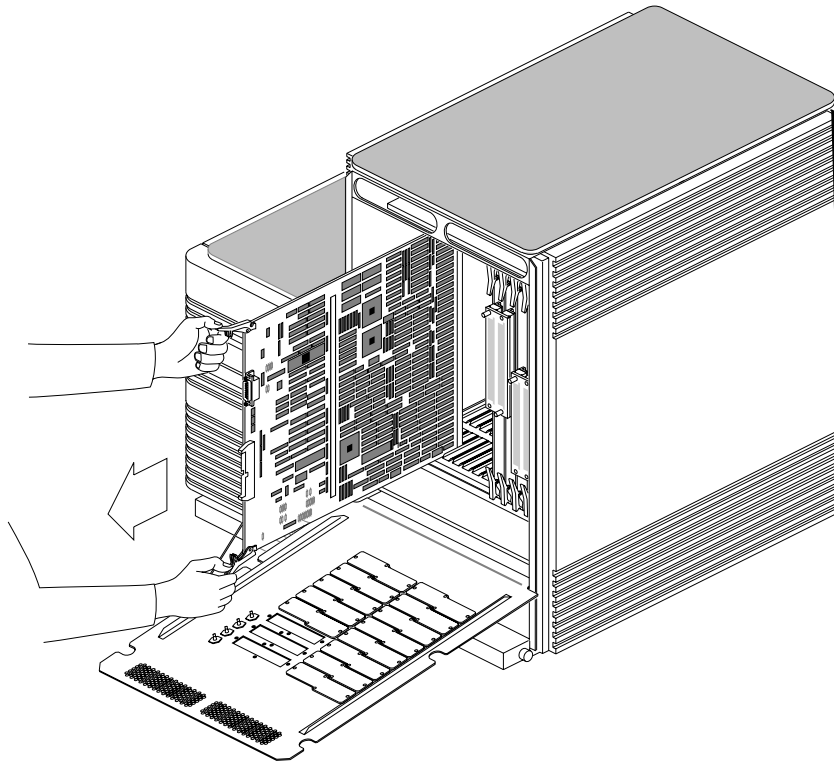

Figure 3-2 Removing a Board from a Twin Tower Chassis
4. Use the board ejection tabs to remove the old IP17 board from the chassis (Figure 3-2); place it on an antistatic mat.